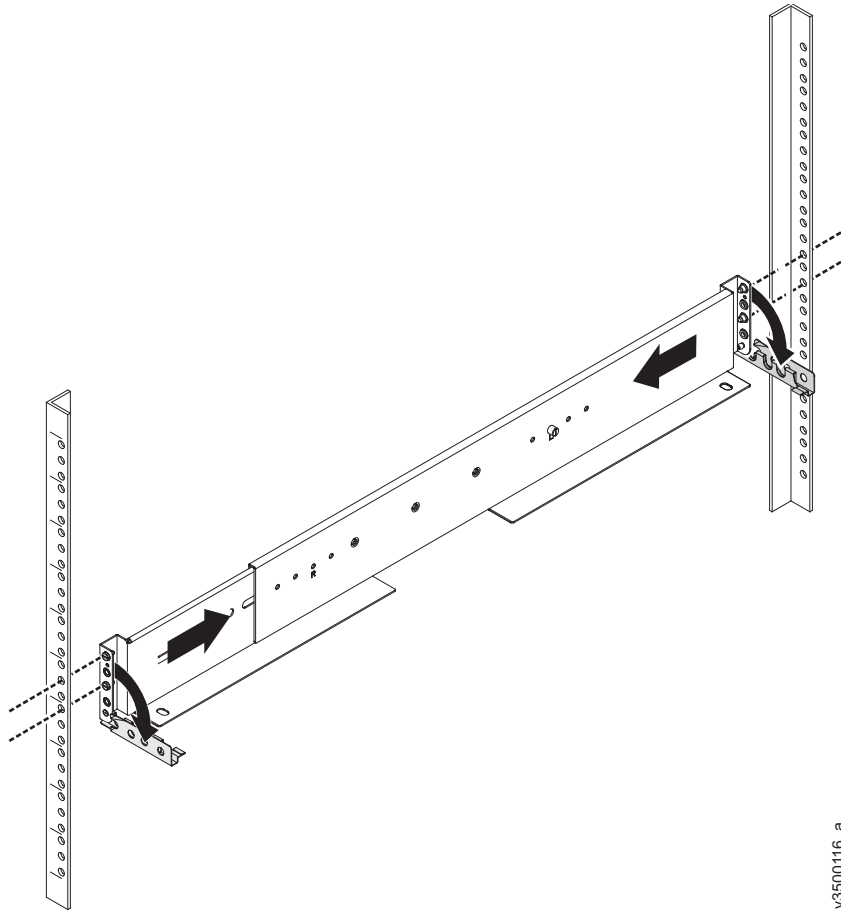

Figure 114. Compressing rail for removal from rack
11. Compress the rail against its spring to shorten it, then remove it from inside the rack (Figure 114 on page 369).
12. Repeat steps 9 on page 367 to Figure 114 on the right support rail.